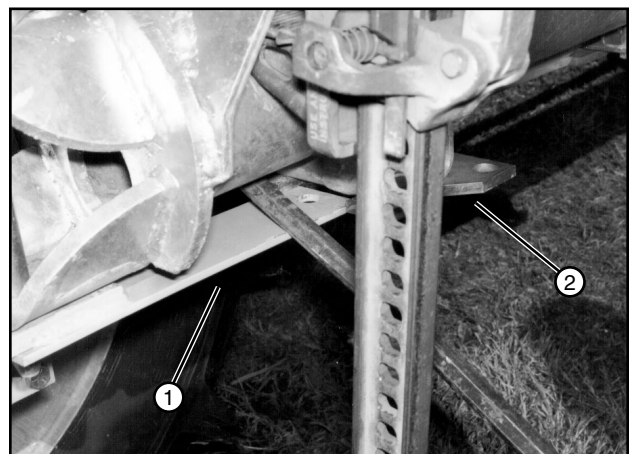

Figure 63-3 1. Steering Arm
6. Make sure the steering arm is latched in the latch plate. See figure 63-3.